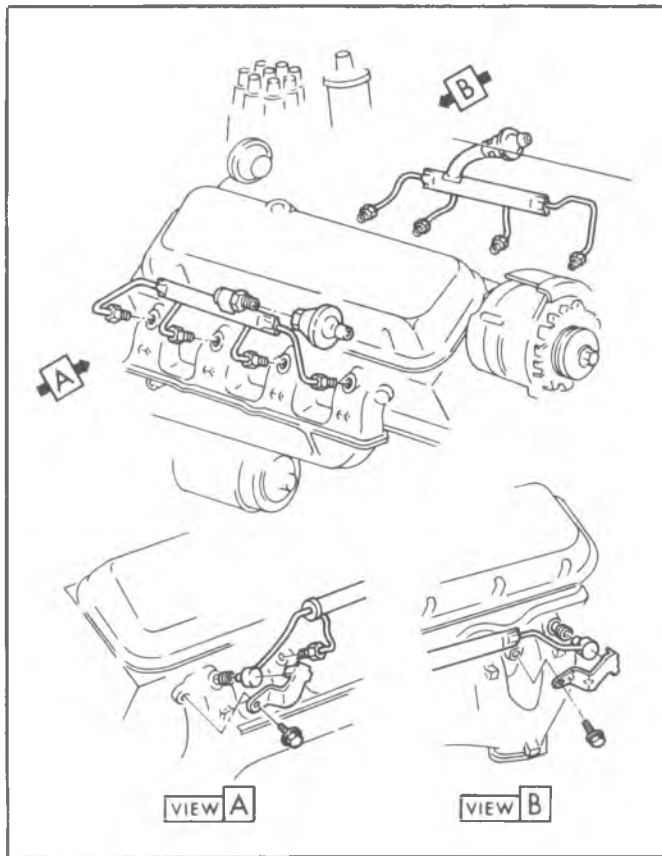

Fig. 12f—Air Injection Tubes (Mark IV V8)
One check valve is used on each air pipe assembly. The air pipe assembly(s) route the air pump output to each cylinder in the area of the exhaust valves. L-6 engines used one (1) air pipe assembly and one (1) check valve. V-8 engines use two air pipe assemblies (one per bank) and two check valves (fig. 12f).